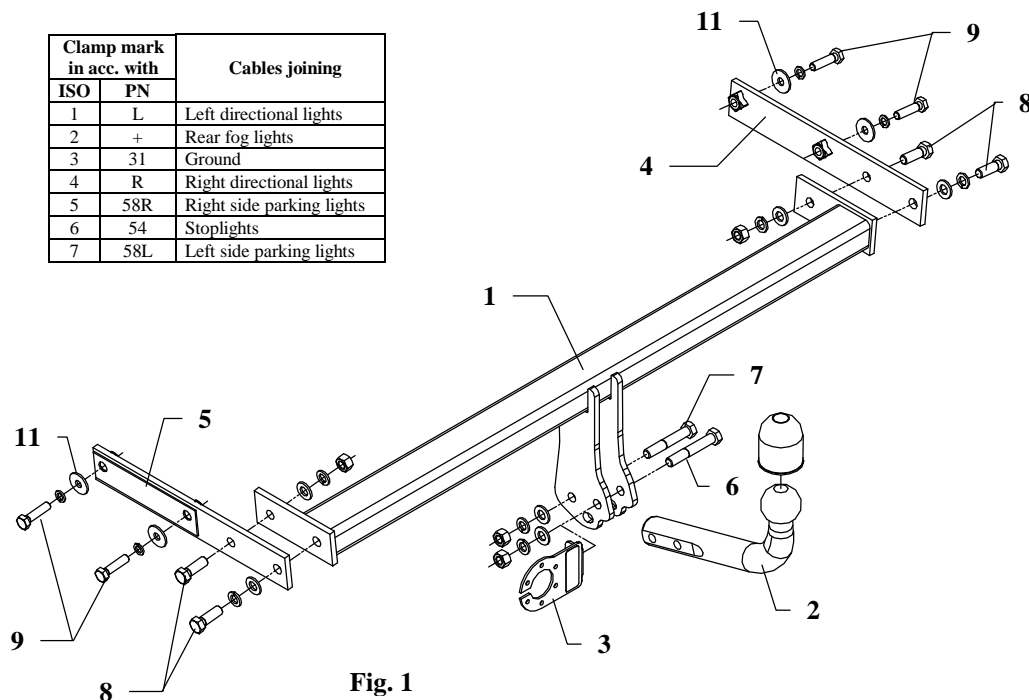

Fig. 1
2. Inside chassis members slip suitable side brackets (pos. 4 and 5) in this way, so holes of brackets agree with factory prepared holes in chassis members. Fix loosely using bolts M10x40mm (pos. 9) as shown on figure 1.
3. Between installed side brackets slip main bar of the towbar (pos. 1) and fix using bolts M12x35mm (pos. 8) as shown on figure 1.